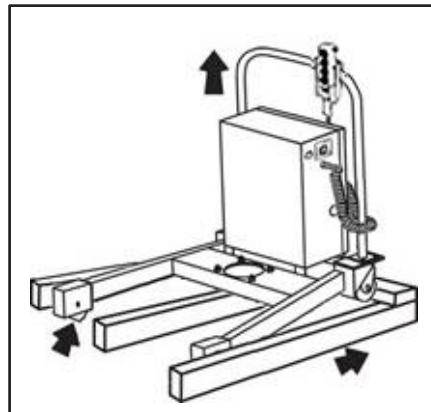

Figure 6
1. Lift the back of the unit. Lift to keep the rear supported and place the front wheels on the floor (Figure 6).